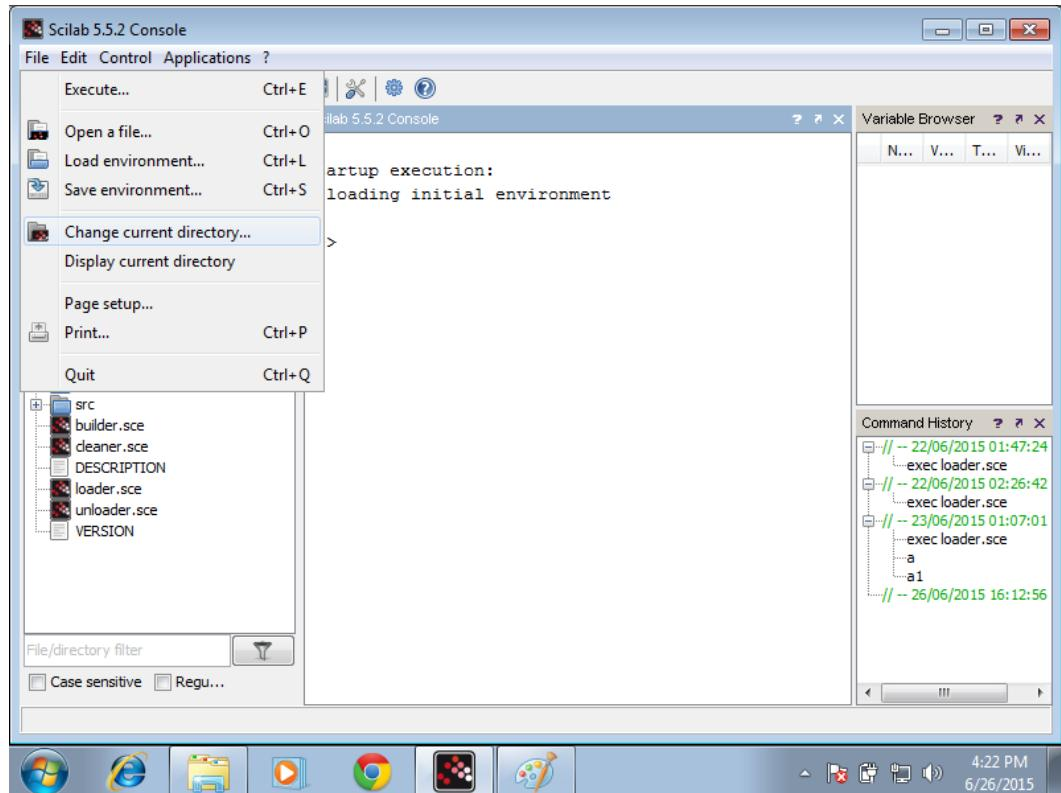

Figure 3.8: Changing scilab directory
2. After launching Scilab, first we have to change the working directory. To do so, click on the **File** menu and then click on the **Change current directory** option as shown in Fig. 3.8.